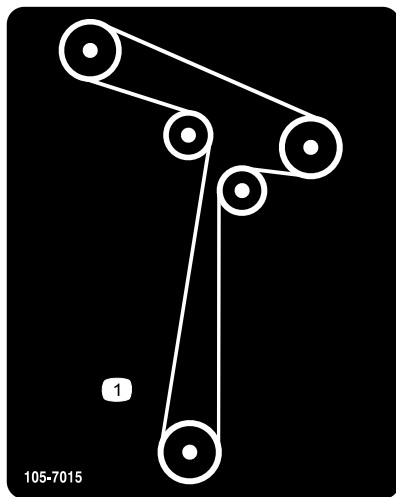

Figure 4
1. Install the mower belt (Figure 4), if removed. Refer to the Replacing the Mower Belt section in the *Operator's Manual*.